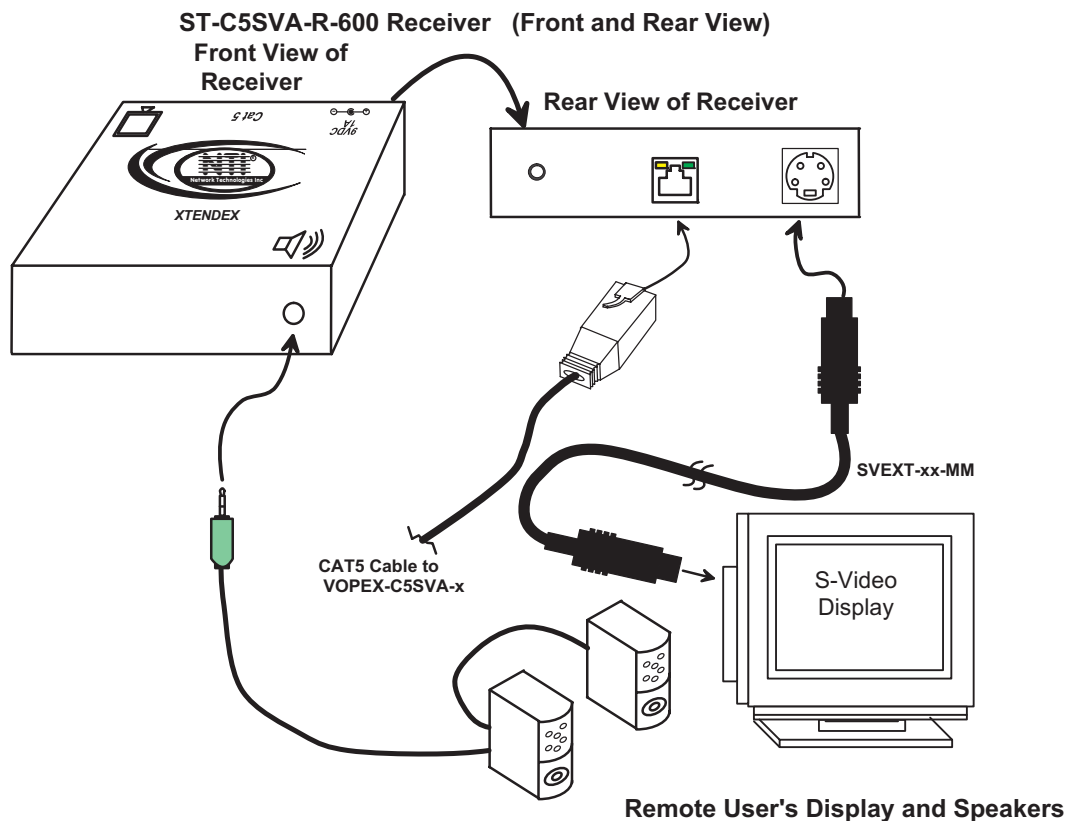

Figure 3- Connect the Extended Components to the ST-C5SVA-R-600 Receiver
4. Connect the remote user's speakers to the 3.5mm female stereo connector on the Receiver (see Fig. 3).
5. Make sure the CAT5 cable has been installed in accordance with the "Preparation for Installation" instructions on page 3. Connect the CAT5 cable to the "Cat 5" port on the Receiver. (See Fig. 3.) When properly inserted the CAT5 cable end should snap into place.